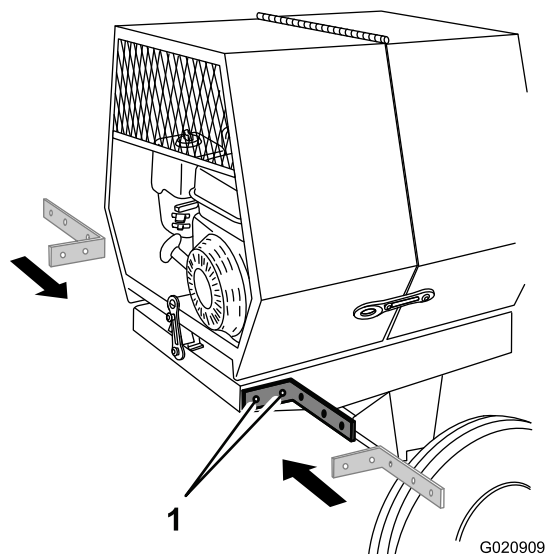

Figure 1
1. Align the bolt holes of a bracket with the bolt holes in the side frame rail under the cowl (Figure 1).